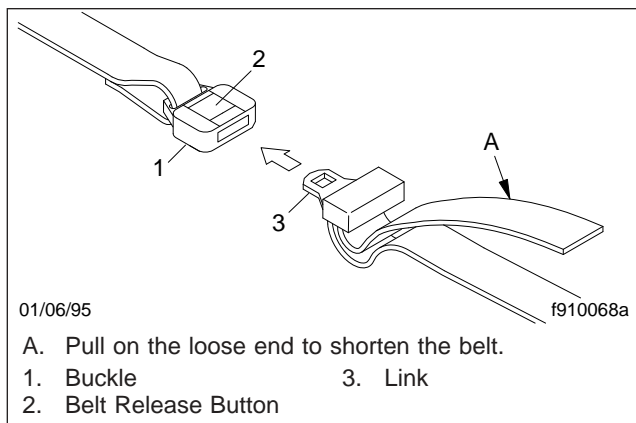

Fig. 5.13, Bunk Restraint Adjustment
3. After the belt is connected, shorten it by pulling on the loose end until the belt is snug, but comfortable. Be sure the belts are not twisted. See Fig. 5.13.